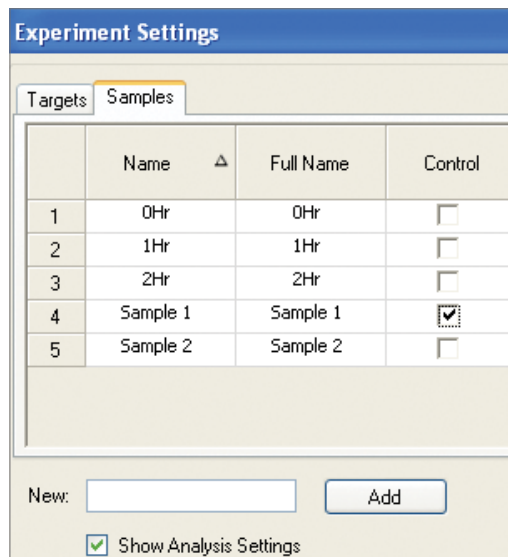

Fig. 3. Assigning the control sample.
2. Click the appropriate checkbox to indicate the sample that will be used as the control in the calculations (Figure 3). The control sample is assigned a value of 1 for every gene, while all other samples are presented with values relative to the control.